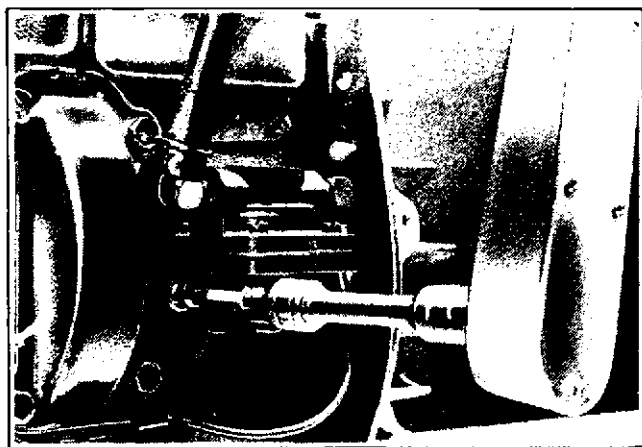

Figure 8-19. Cam Cover and Fuel Pump Installation
1. Install cam cover gasket and cam cover. Also install lead wire as shown in Figure 8-19 and secure it with cable clamp held by cam cover screw. Thread one end of lead wire around fuel pump mounting pad and up along bearing plate. Thread the wire through at the top of bearing plate to the other side of the engine so it emerges along with the stator wires.
3. Install fuel pump and new fuel pump gasket. On plastic fuel pumps make sure flat washer is installed next to mounting flange on pump. Torque screws on plastic pumps to 70 in. lbs. (see Figure 8-19).